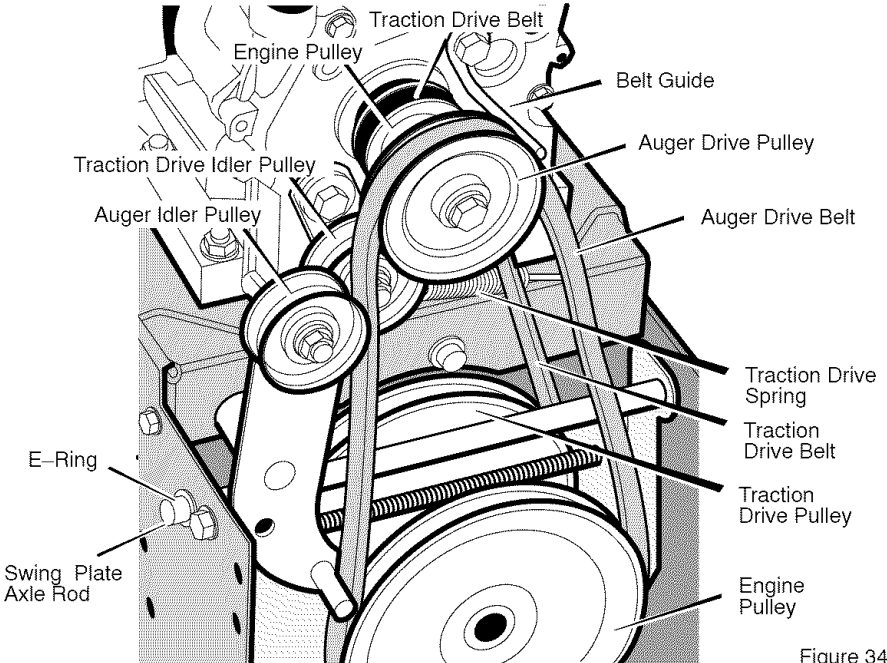

Figure 34
3. Loosen nut on auger idler pulley and move auger idler pulley towards belt about 1/8 inch (3 mm) (see Figure 34).
5. Loosen the **belt guide**. Pull the **belt guide** away from the **auger drive pulley** (see Figure 34).
9. Remove the old **auger drive belt** from the **auger drive pulley**. Replace the **auger drive belt** with an original factory replacement belt available from an authorized service center (see Figure 34).
3. Remove the **e-ring** from one end of the **swing plate axle rod**. Remove the **swing plate axle rod** to allow the swing plate to pivot forward (see Figure 34).